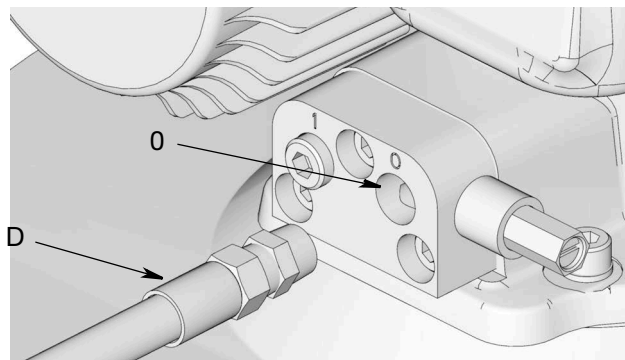

FIG. 54: Lubricant Outlet Connection
3. Disconnect Timer/Controller (F) (user supplied, if used).
4. Disconnect high pressure lubricant supply line (D) to the lubricant output connection (O) (FIG. 54) on the vent valve or manifold.